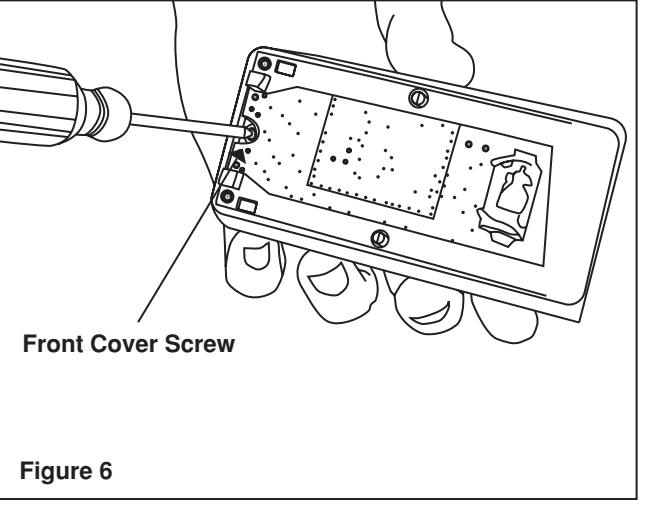

Figure 6
2. Unscrew the front cover screw on the back at the bottom and remove the front cover (see FIGURE 6).